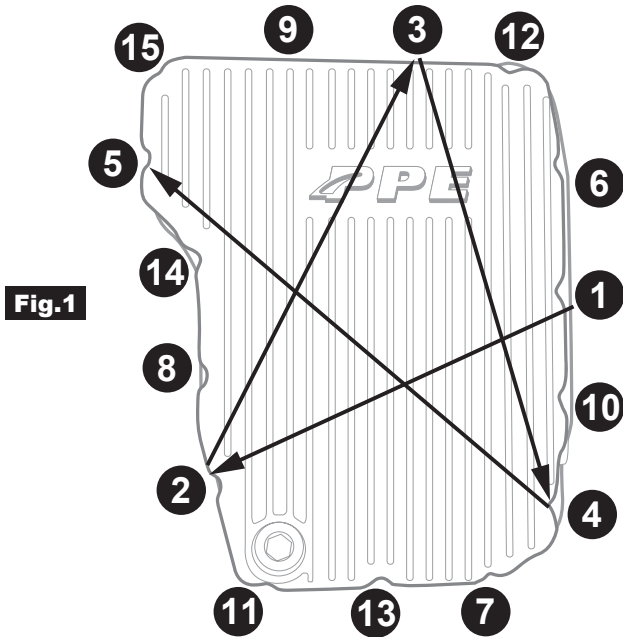

Fig.1
Step 5. Install remaining M6 Flat Washers and M6 Screws. Tighten in crossing pattern as depicted in Fig 1.